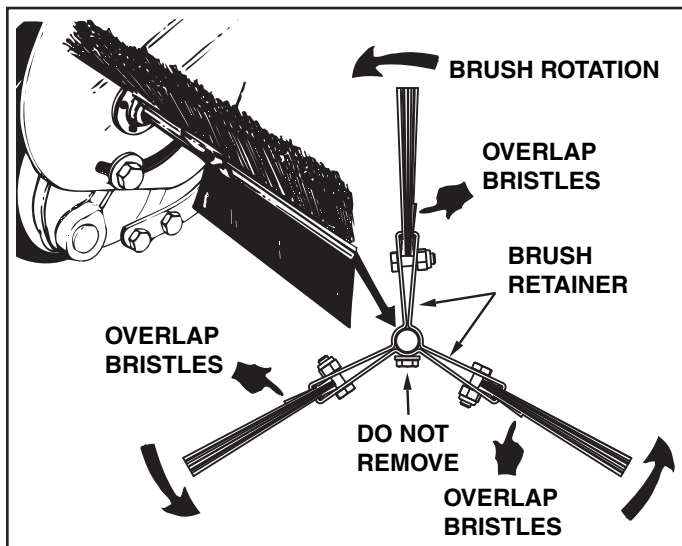

FIGURE 25
2. Loosen only the two hex bolts and lock nuts which clamp one brush in a brush retainer. **Do not loosen** or remove the bolts which fasten the brush retainers to the brush shaft. See figure 25.
3. Lift the brush out of the retainers, noting on which side of the brush the bristles overlap. See figure 25.
4. Install new brush, making sure the bristles overlap on the same side of the brush as before. See figure 25.